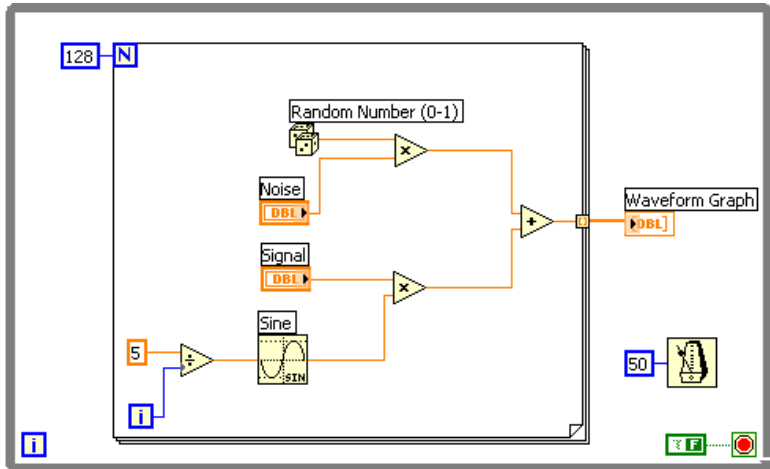

Figure 12. Creating the Infinite Outer While Loop
Note Refer to Figure 12 to see the completed block diagram for this tutorial.
2. (Optional) Place a Wait Until Next ms Multiple function located on the **Functions»Time, Dialog & Error** palette inside the While Loop. Right-click the **millisecond multiple** input and select **Create»Constant** from the shortcut menu. Enter 50 to wait 50 milliseconds as shown in Figure 12.